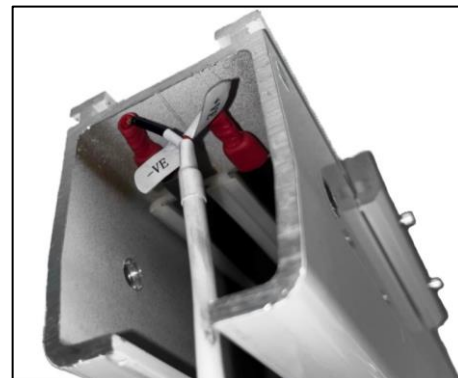

Figure 7-2-2
3. Attach the charging unit terminals to the contact strips. Matching the positive terminal to the positive strip and the negative terminal to the negative strip. (See figure 7.2.2)